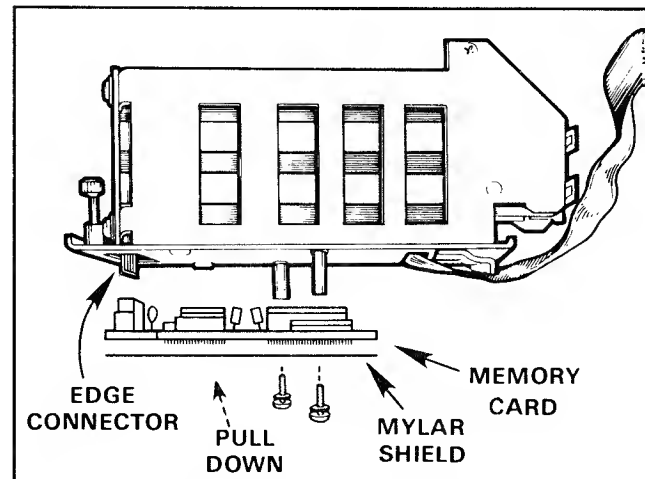

Figure 4-4. Memory Card Removal
12. Remove the two screws and the shield, and pull the memory card down to unplug it from the edge connector (as shown in figure 4-4).
1. Plug the memory card onto its edge connector, as shown in figure 4-4.